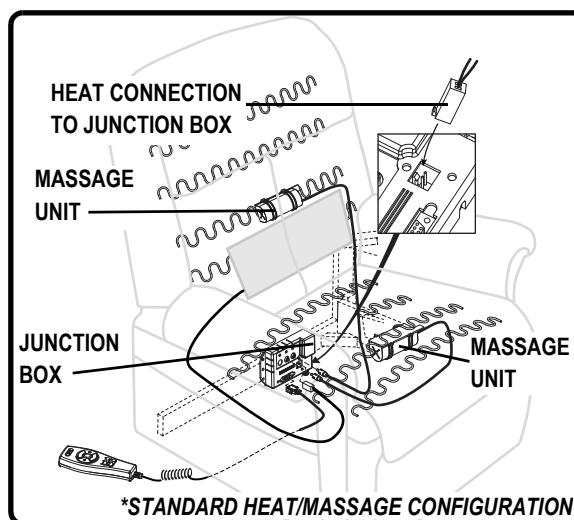

Figure 4.3 Harness Connections
- Connect the hand control harness to the lift chair and heat/massage harnesses (if equipped) to the lift chair (Fig 4.3).